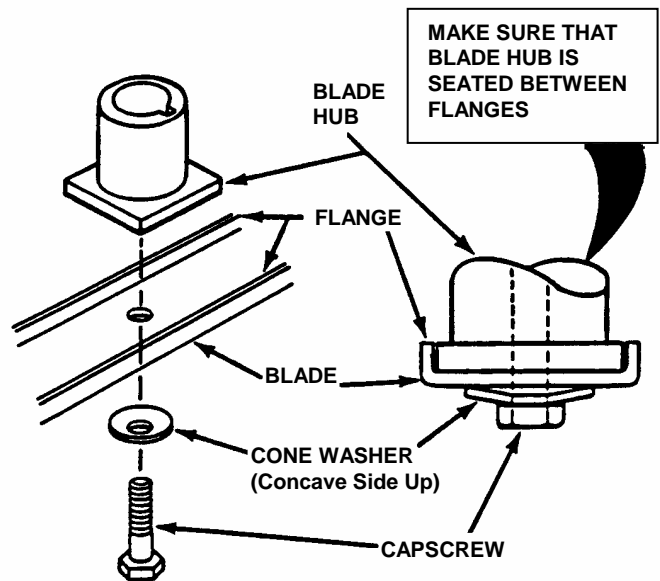

FIGURE 4.3
3. Remove blade. See Figure 4.3.